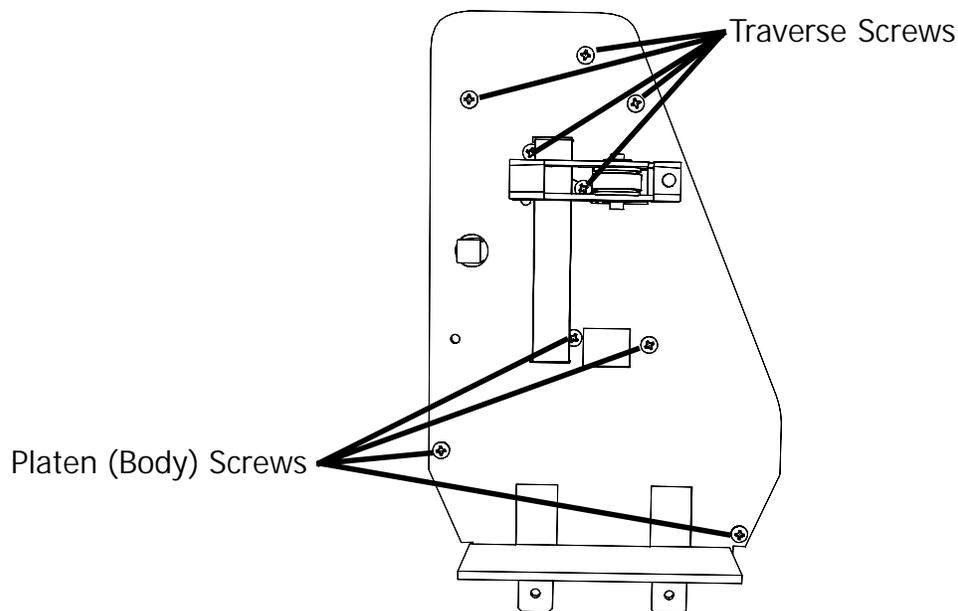

Fig. 6 - Left end plate
- 4) Remove the carriage cover unscrewing the two (2) phillips screws. One is on the bottom left side, and the other is on the front above where the blade holder is inserted.
- 8) Now it's time to start removing the left end plate of the machine. Start by taking out the screws that hold the body to the machine. *Remove all but one screw for the traverse, and one for the platen.* See Fig. 6